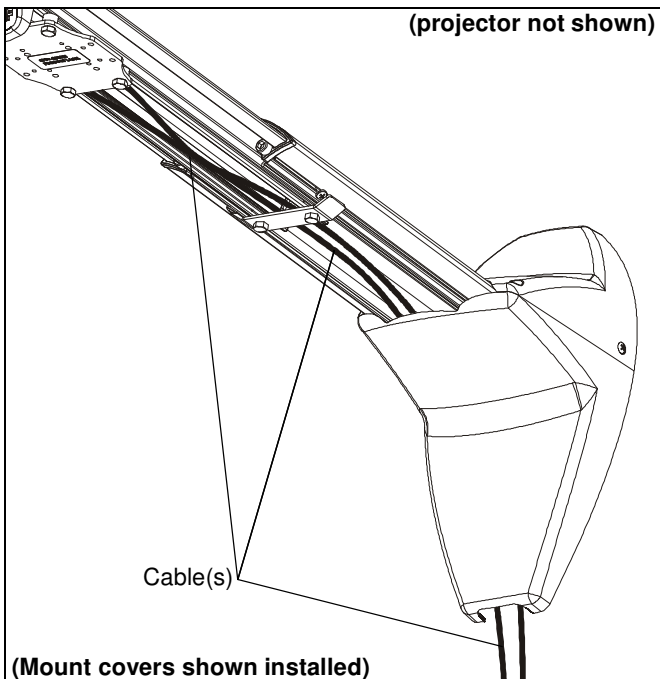

Figure 22
2. Route projector cable(s) under mount cover and through short throw projector arm tunnel. (See Figure 22)